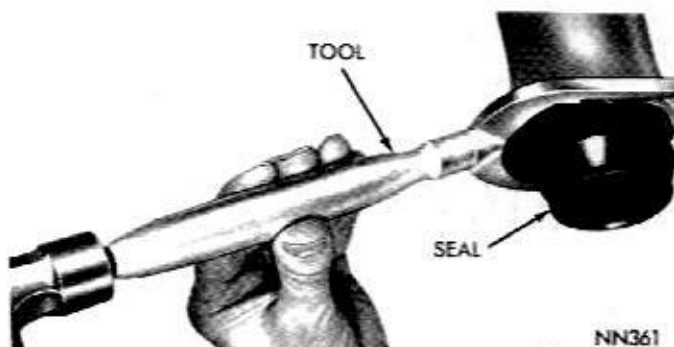

Fig. 34—Removing Extension Housing Seal
(a) Remove extension housing yoke seal (Fig. 34) with Tool C-3985.
(3) Remove extension housing yoke seal (Fig. 34) with Tool C-3985.